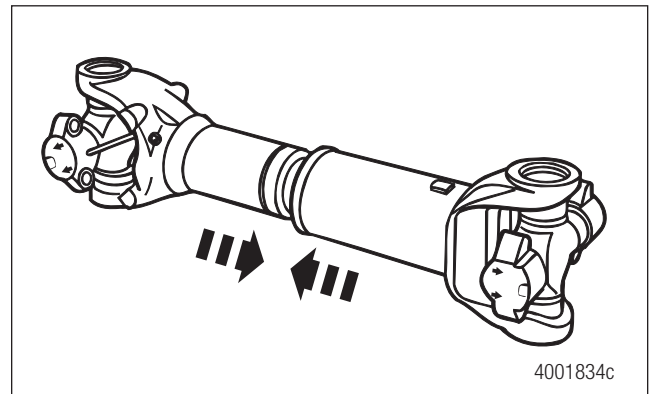

Figure 5.48
9. Push together the driveline sections. Figure 5.48.